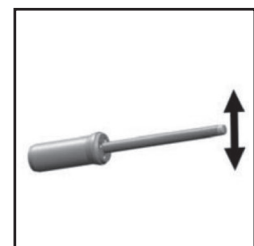

Fig. 22
- c. Stem must be free to float in poppet. (See fig 22)